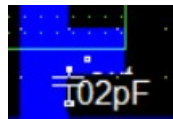

Figure3
b. Simulation with a C of **0.02pF**. You can just put a capacitor as shown in Figure 3